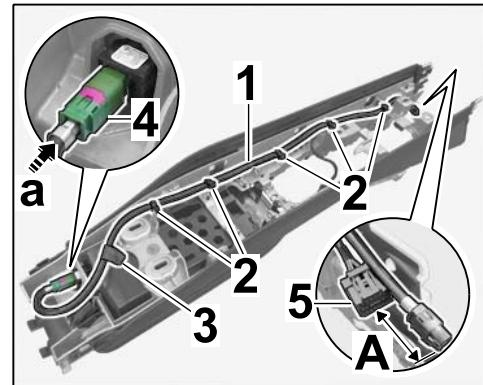

Figure 13
3.4 Connect electric plug connection  $\Rightarrow$  Figure 13-4- ( $\Rightarrow$  Figure 13-a-).
It must project  $\Rightarrow$  Figure 13-A- by approx. 40 mm on the standard connector  $\Rightarrow$  Figure 13-5-.